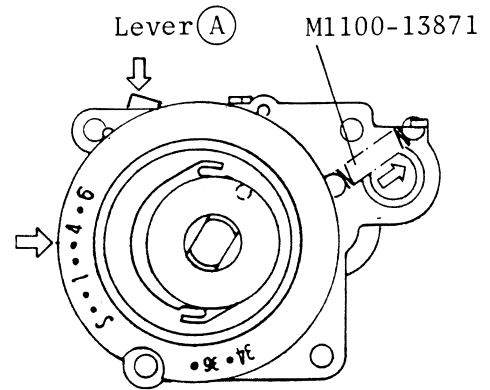

Fig.17
Therefore the (8) film counter gear engages with shaft of the (7) film counter advance gear. (Fig. 17 and 18)